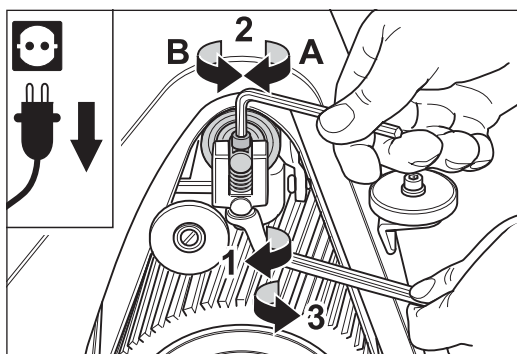

Fig. 80 Adjust the sanding belt tracking at the setting screw of the drive unit (see description on the right).
- 6 If readjustment of the tensioning roller is necessary, release the lock nut at the drive unit (fig. 80, 1) and adjust the tensioning roller with the screw (fig. 80, 2):
- 7 If the sanding belt tracking is seen to be correct after adjusting once, tighten the lock nut again (fig. 80, 3).